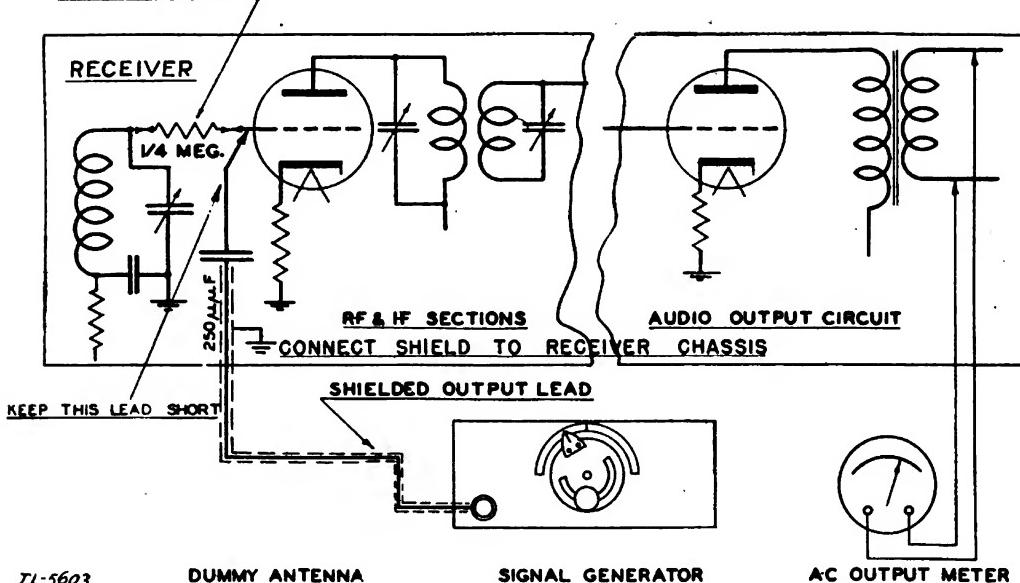

FIGURE 3.—Method of connecting signal generator to radio receiver for alinement.
b. Method of connection.—With the output meter connected across the audio output of the receiver as shown in figure 3, disconnect the lead from the control-grid terminal of the first detector tube. Place an isolating resistor of $\frac{1}{4}$ megohm in series with this lead and reconnect to the terminal from which it was removed. This resistor will minimize the effect of the tuned circuit upon the stage under test while maintaining proper bias on the grid. Connect the signal generator to the grid through a $250\mu\mu\text{f}$ capacitor in series with the output lead of the signal generator and connect the shielded braid of the signal generator output lead to the receiver chassis as shown in figure 3.